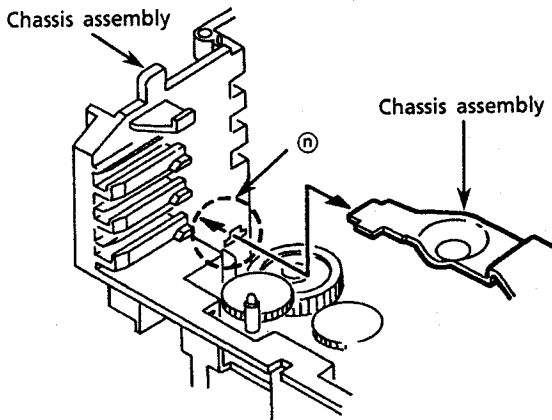

Fig. 37
3. Remove the gear bracket from the chassis ass'y ③ securing top of the gear bracket. (See Fig. 37.)